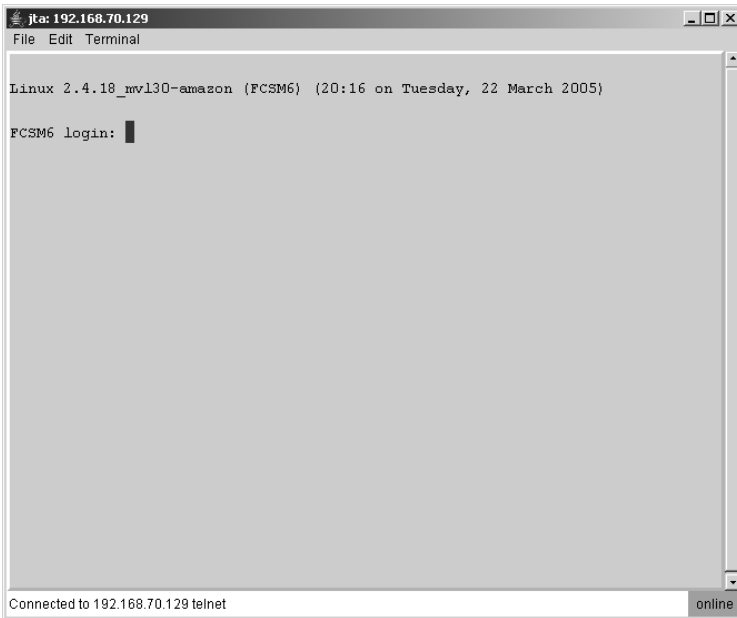

Figure 8. Fibre Channel switch module Telnet Login window
9. The I/O module Telnet Login window opens, as shown in Figure 8.